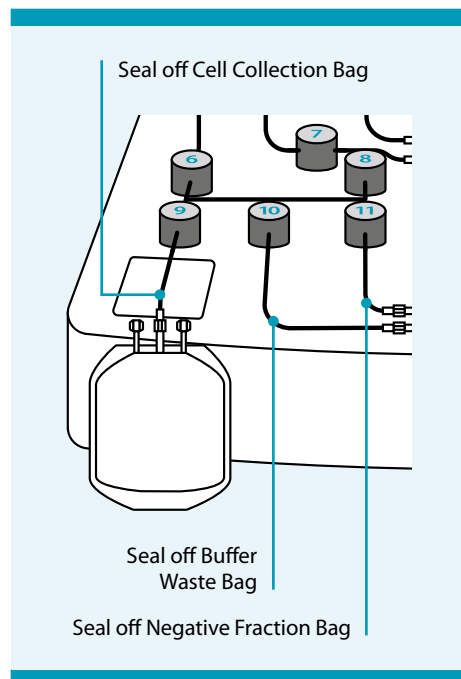

Figure 7.25: Disconnect bags
2. Clamp or seal the tubing above the luer lock connecting the Cell Collection Bag to the tubing set (see Figure 7.25).